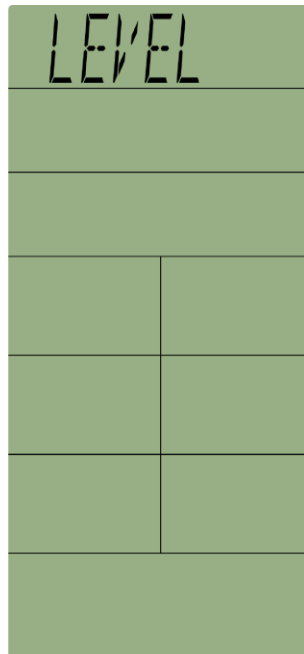
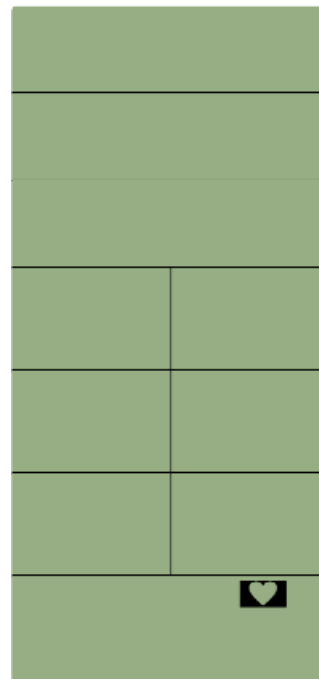

fig. 2
fig. 3
2. Display may show LEVEL, HEART RATE or other values (fig.2-fig.3).